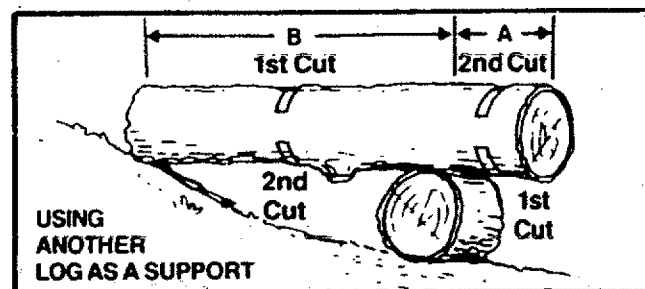

Figure 24
4. BUCKING — USING ANOTHER LOG AS A SUPPORT (Figure 24)